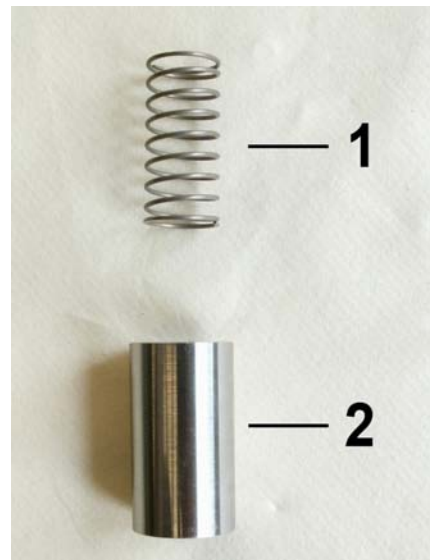

Fig. 38: Insert inner parts
1. ➤ Insert the spring (Fig. 38/1) into the float (Fig. 38/2)